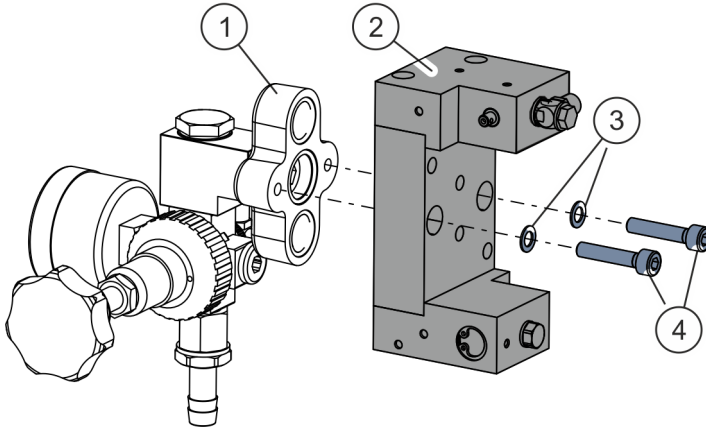

Fig. 13: Pressure controller
8.  Unscrew the screws (Fig. 13/4) and remove locking washers (Fig. 13/3).
Remove control valve (Fig. 13/2) from valve adapter (Fig. 13/1).